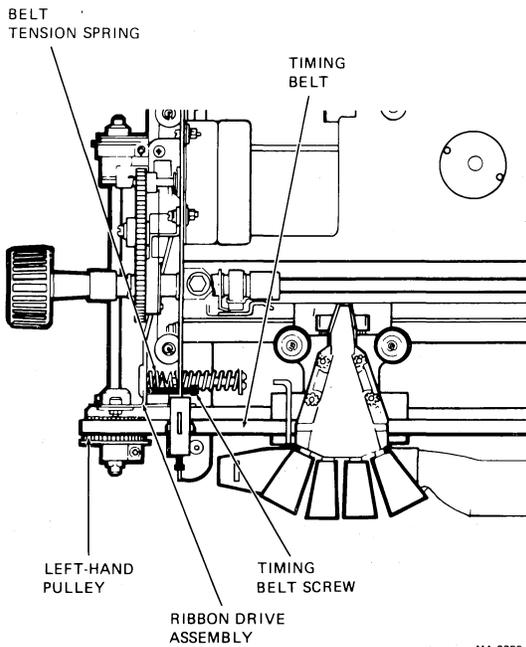

Fig. 4-Belt Tension Spring Location
- (a) Connect the print head cable to the new print head (Figure 4).
- (a) With the belt tension spring (Figures 4 and 5) in place, press the left-hand pulley against the printer mechanism and slip on the new timing belt.
- (b) Rotate the timing belt screw (Figure 4) until it just touches the ribbon drive assembly. Screws should not exert pressure on the ribbon drive assembly.
- (d) With the belt tension spring (Figure 4) in place, press the left-hand pulley against the printer mechanism and slip on the new timing belt.